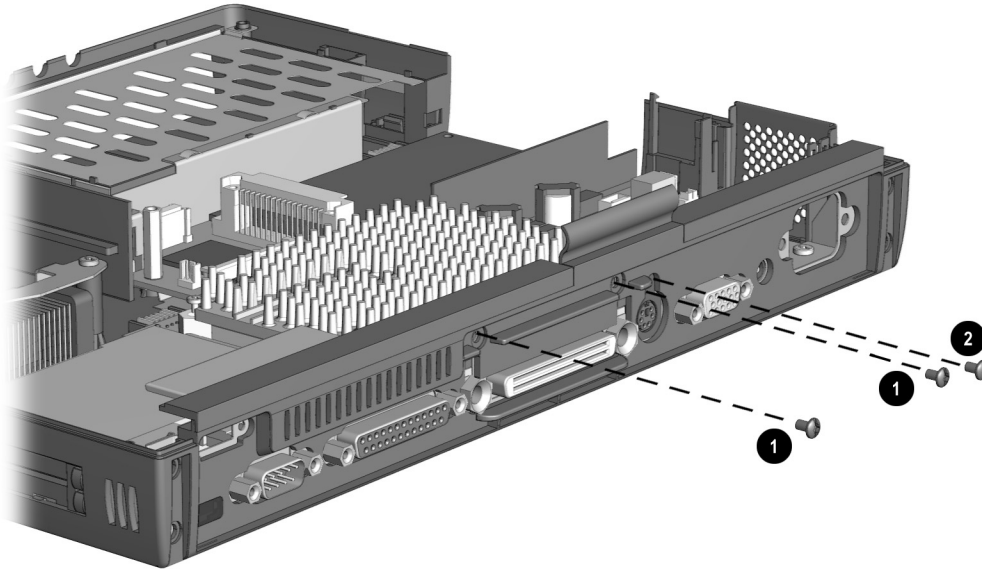

Figure 5-50. *Removing the System Board Screws*
16. Remove the two screws that secure the display ground clip assembly ❶ and the screw above the keyboard connector ❷ (Figure 5-50).